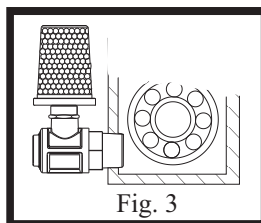

Fig. 3
7. Use a 7/8" wrench to tighten silica gel cartridge 1/2 - 3/4 turn on the main body. DO NOT OVER TIGHTEN (Fig. 3).